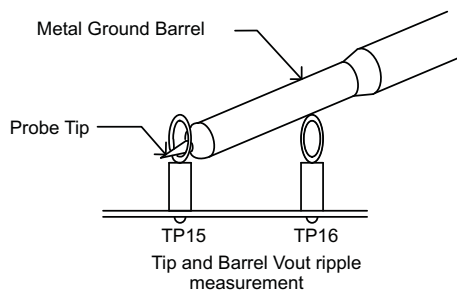

Figure 3. Output Ripple Measurement – Tip and Barrel Using TP15 and TP16
TPS40192EVM-525 provides two test points for measuring the voltage generated by the module. This allows the user to measure the actual module output voltage without losses from output cables and connector losses. All output voltage measurements should be made between TP15 and TP16. To use TP1 and TP2, connect a voltmeter positive terminal to TP15 and negative terminal to TP16. For output ripple measurements, TP15 and TP16 allow a user to limit the ground loop area by using the tip and barrel measurement technique shown in Figure 3. All output ripple measurements should be made using this technique.
A digital or analog oscilloscope can be used to measure the ripple voltage on V_{OUT} . The oscilloscope should be set for 1-M Ω impedance, 20-MHz bandwidth, AC coupling, 1- μ s/division horizontal resolution, 10-mV/division vertical resolution for taking output ripple measurements. TP15 and TP16 can be used to measure the output ripple voltage by placing the oscilloscope probe tip through TP15 and holding the ground barrel to TP16 as shown in Figure 3. For a hands-free approach, the loop in TP16 can be cut and opened to cradle the probe barrel. Using a leaded ground connection may induce additional noise due to the large ground loop area.
4. Connect oscilloscope probe to TP15 and TP16 as shown in Figure 3.